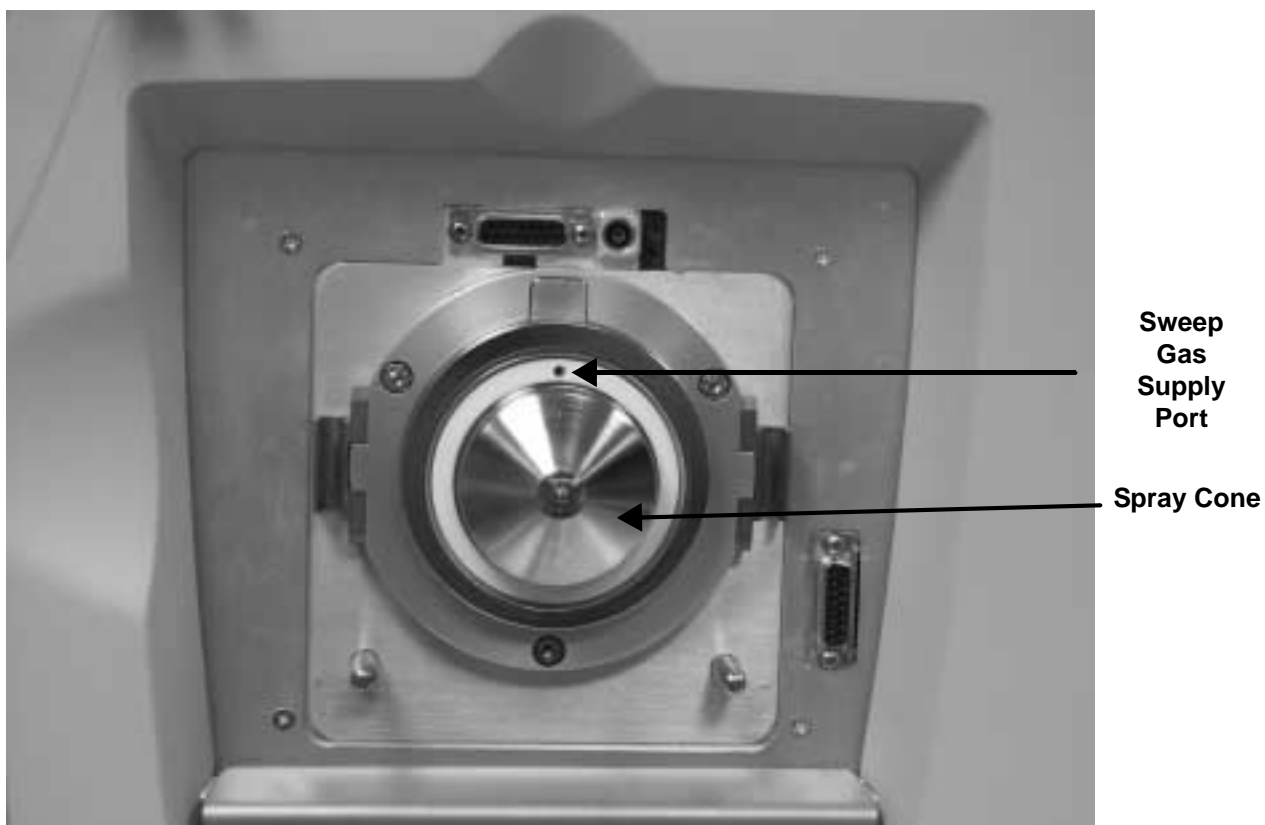
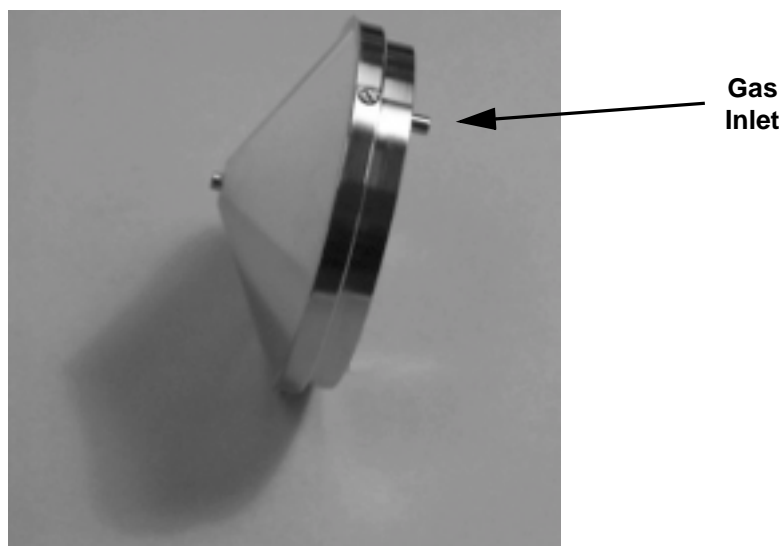

Figure 3-1. Sweep gas supply port in the API cone seal
Figure 3-2. Ion sweep cone, showing the gas inlet
- i. Note the location of the sweep gas supply port in the API cone seal. The gas inlet on the ion sweep cone is placed in this port. See Figure 3-1 and Figure 3-2.